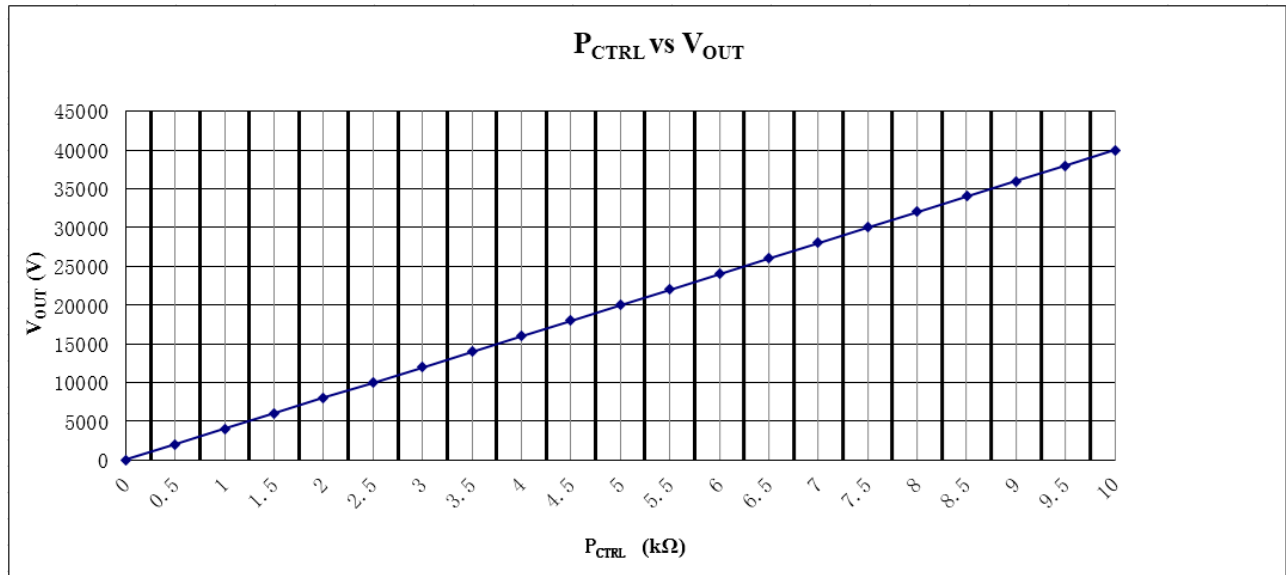

Figure 4. P_{CTRL} vs. V_{OUT}
5. HV adjustment: 10-turn potentiometer for adjusting output voltage. Rotate it clockwise to increase the output voltage, and the potentiometer resistance = the corresponding scale $\times 10\Omega$. For example, as Figure 4 shows, when the scale is 10, and the frame above the scale shows 1 ($1k\Omega$), then the resistance = $10 \times 10\Omega + 1k\Omega = 1.1k\Omega$, and the like.